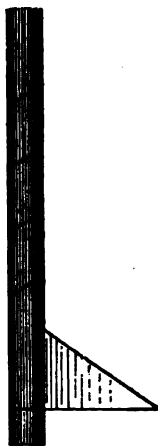
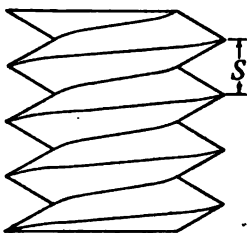

FIG. 103.—The screw is a spiral inclined plane.
FIG. 104.—The pitch is  $S$ .
**129. The Screw.**—The screw is a cylinder around whose circumference winds a spiral groove. (See Fig. 103.) The raised part between the two adjacent grooves is the *thread* of the screw. The screw turns in a block called a *nut*, within which is a spiral groove and thread exactly corresponding to those of the screw. The distance between two consecutive threads measured parallel to the axis is called the *pitch* of the screw. (See Fig. 104.) If the thread winds around the cylinder ten times in the space of 1 in., the screw is said to have ten threads to the inch, the pitch being  $\frac{1}{10}$  in. The screw usually is turned